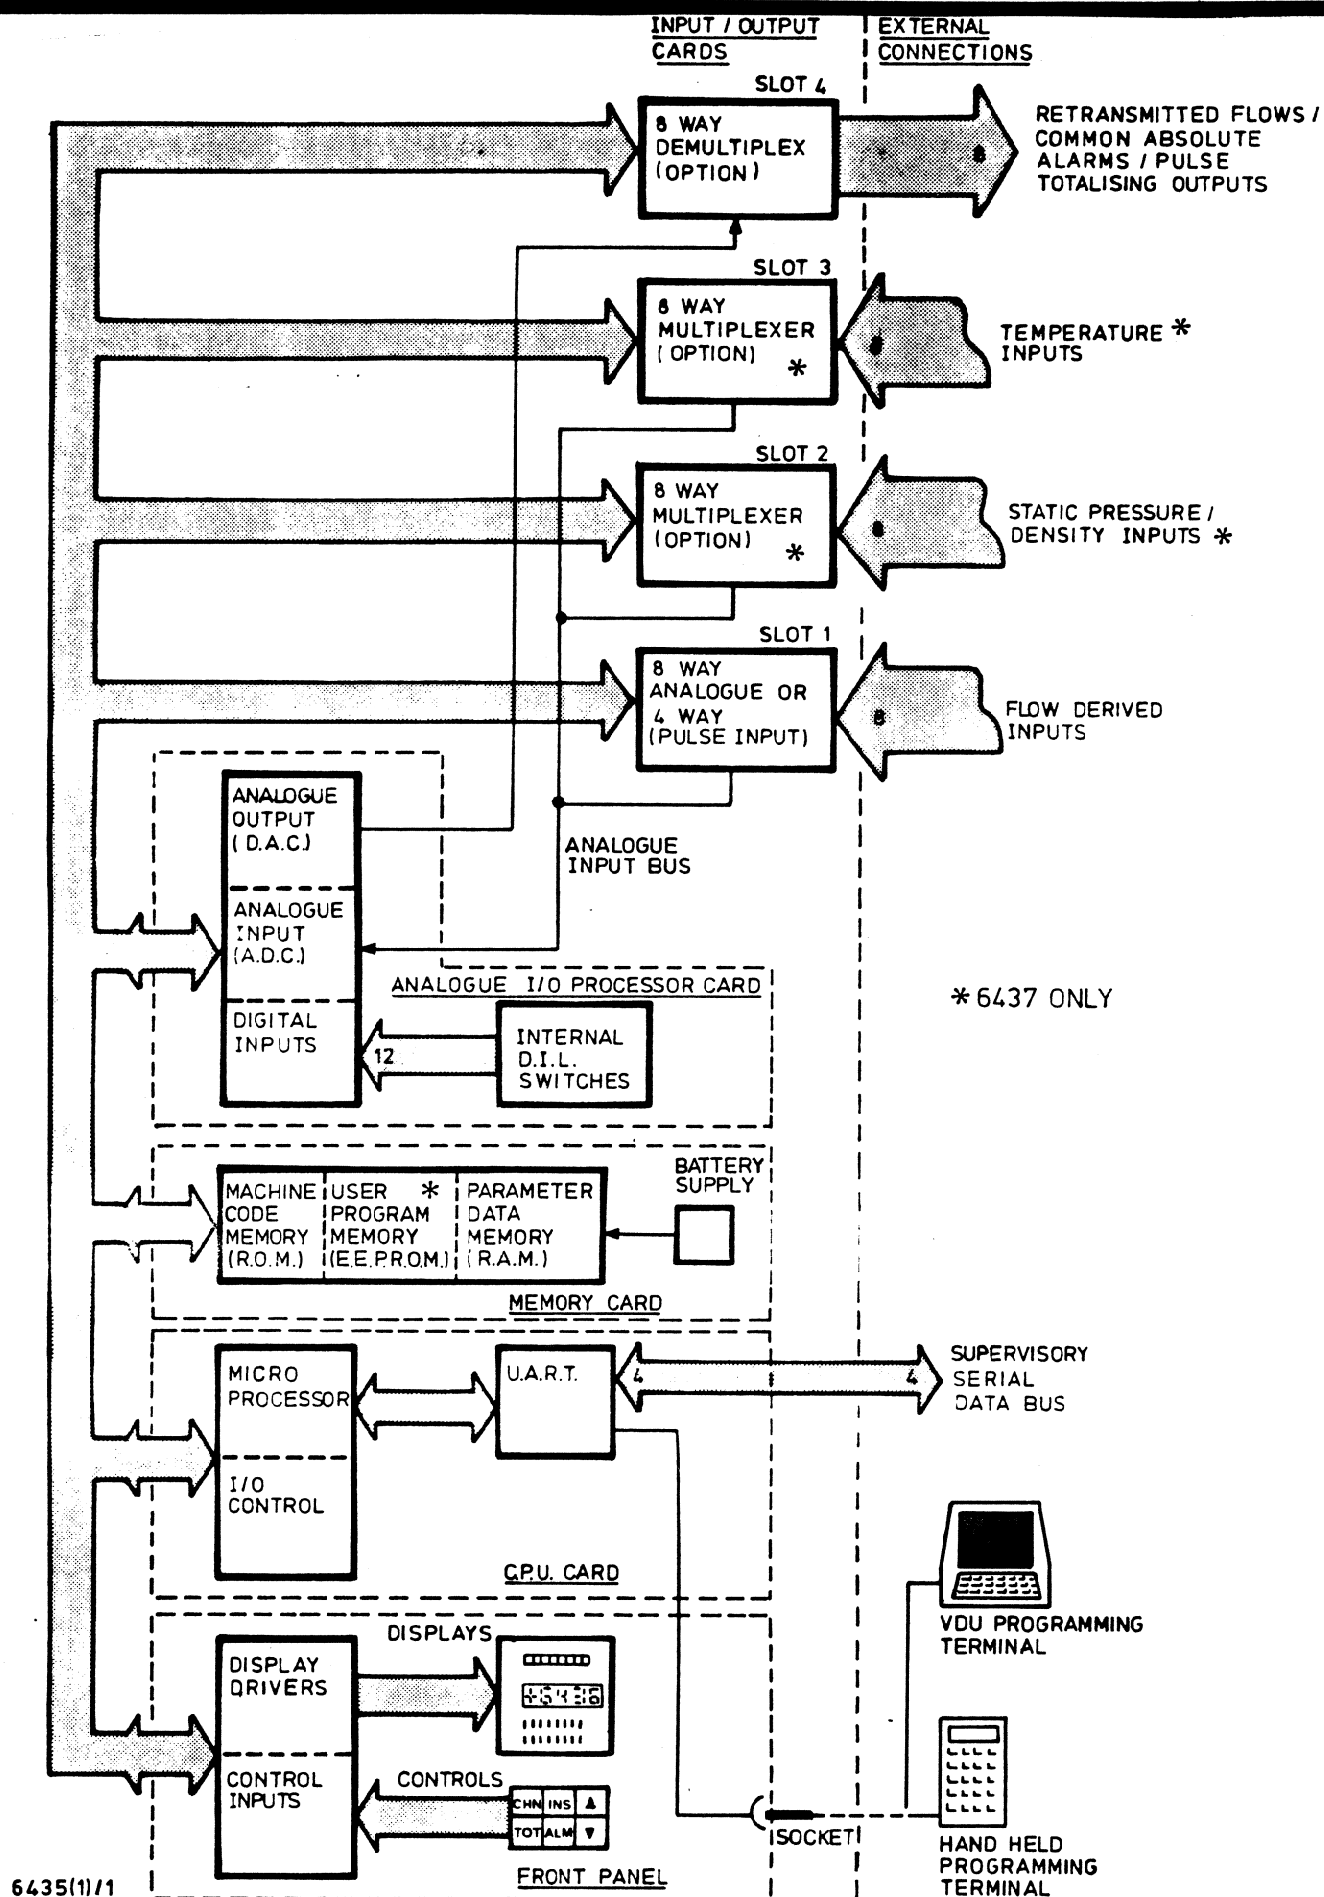

FIG.1.1 6436/7 FLOW MONITOR / COMPUTER HARDWARE SCHEMATIC BLOCK DIAGRAM
- 1) The 6436 has one input and one output slot, and is ideal for calculating simple uncompensated flow rates, using the calculation forms built into the instrument and selected via the hand held terminal. The 6437, on the other hand, can perform fully compensated flow calculations using Slots 2 and 3 (Fig 1.1) for optional pressure/density and temperature inputs. There is a choice of 32 standard calculation forms available in the 6437.
The features of the 6436/7 instrument are best described with reference to the schematic Block Diagram shown in Fig 1.1. It can be seen that the hardware structure is such that each of the instrument's separate functional blocks, namely:-